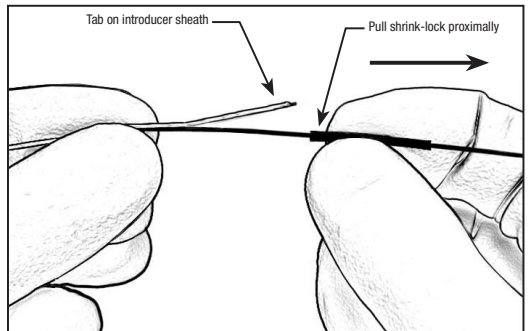

Figure 3 – Pull Shrink Lock Proximally
- Hold the device just distal to the shrink-lock and pull the shrink-lock proximally to expose the tab on introducer sheath. See Figure 3.